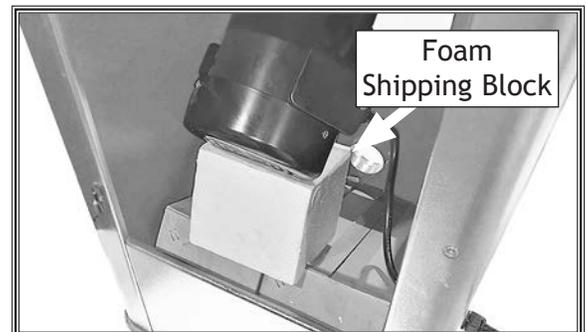

Figure 16. Foam shipping block location.
4. Raise motor with blade height handwheel and remove foam shipping block (see **Figure 16**). Save block for later machine transport (if necessary).